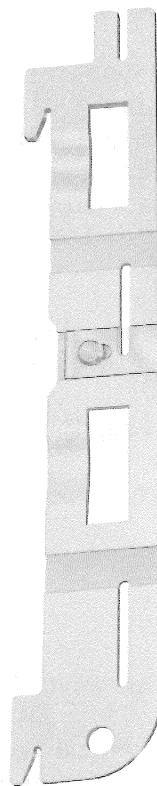

Fig. 2—KS-20950, List 1 Cover Parking Tool
- KS-20950, L1 parking tool (Fig. 2)—Used to hang cover unit assembly of 1A/1C-type set on side of housing, eliminating the need for a P11C cord